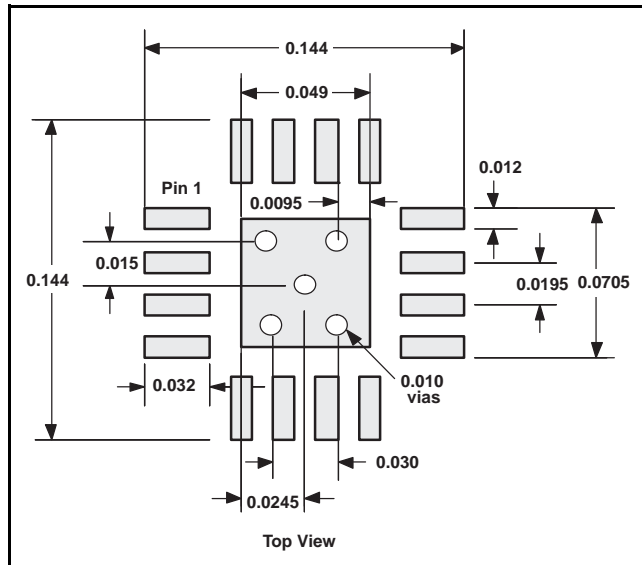

Figure 93. PowerPAD PCB Etch and Via Pattern
9. The THS4509 recommended PCB footprint is shown in Figure 93.
1. Prepare the PCB with a top side etch pattern as shown in Figure 93. There should be etch for the leads as well as etch for the thermal pad.